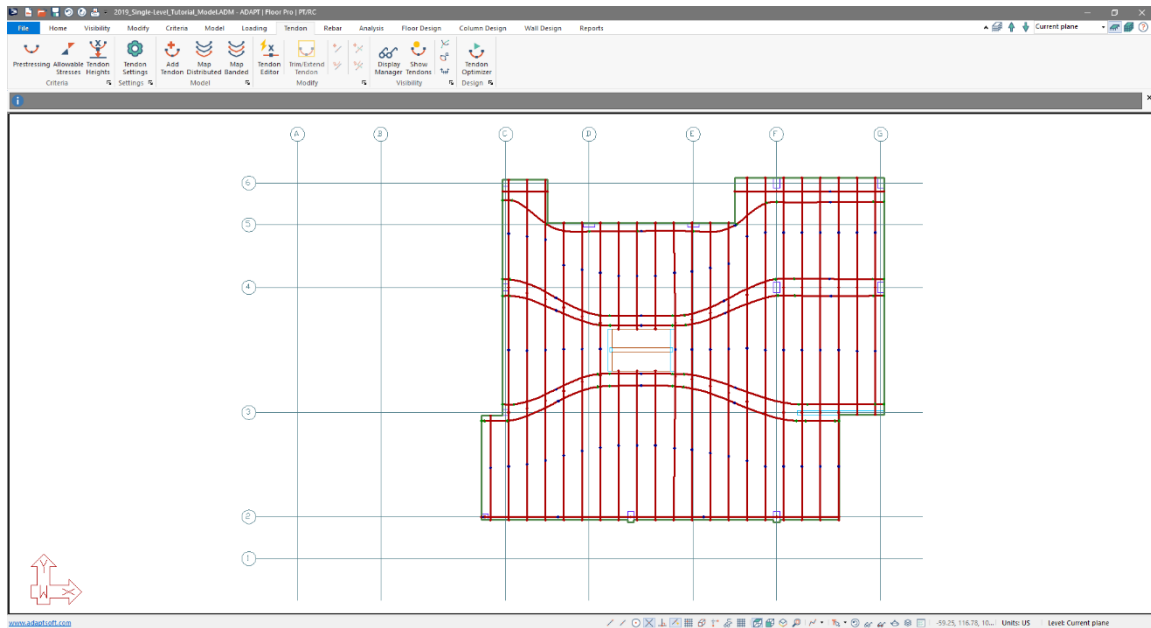

Figure 8-35
- Do this for all the control points on these tendons until the final tendon layout is as shown in **FIGURE 8-35**.